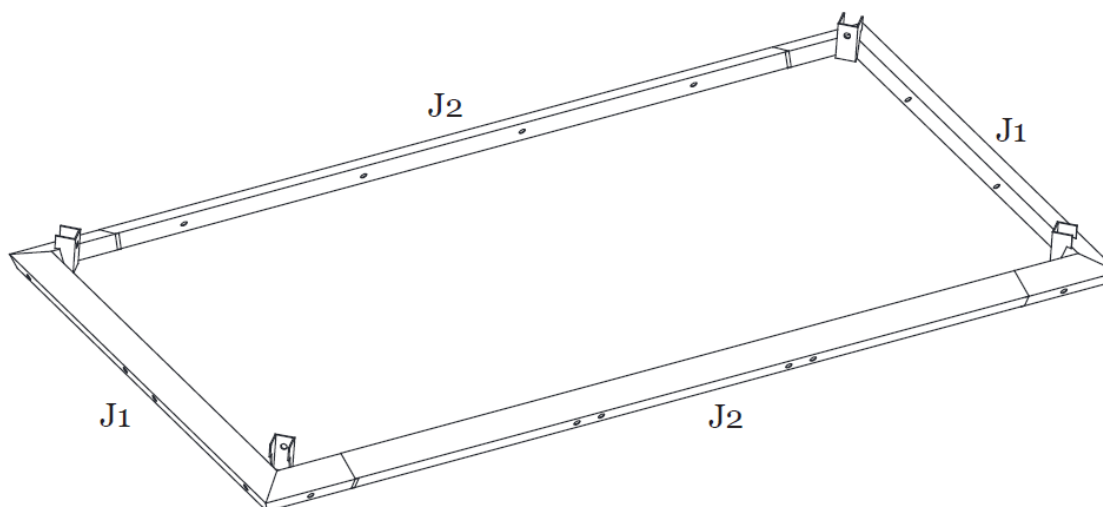

Figure 6-2
Step 6B: Repeat for opposite sides and ends. **Tighten all Bolts.** See Figure 6-2.